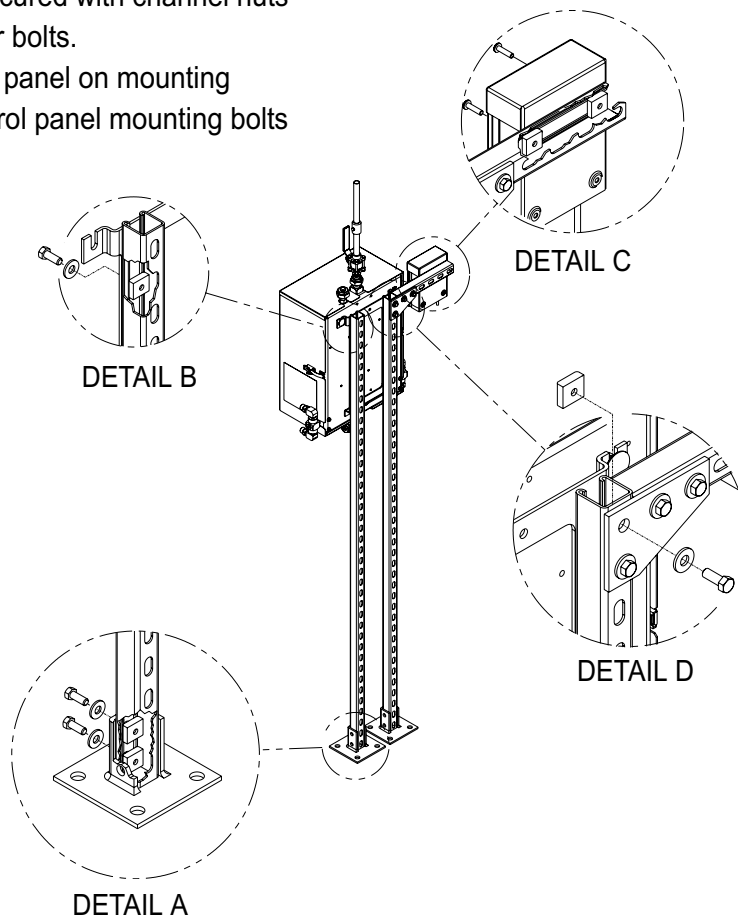

Figure 10
4. Attach post base to one end of each 80-inch channel as shown in Figure 10, Detail A. Use two each 3/8" bolts, flat washers and channel nuts per base. Tighten all four bolts.
5. Stand each channel / base side by side. Attach manifold mounting bracket to both bases as shown in Figure 10, Detail B. Use four each 3/8" bolts, flat washers and channel nuts per base. Top of bracket should be level and positioned 79 3/4" above floor. Tighten all four bolts.
8. Attach 12-inch channel to top of one vertical channel as shown in Figure 10, Detail D. 12-inch channel is used to mount power supply and may be located on either side of manifold control panel. Use flat plate, four each 3/8" bolts, flat washers and channel nuts. Unlike other hardware shown in Figure 10, 3/8 bolts will pass through elongated holes in back of channel and will be secured with channel nuts inside. Tighten all four bolts.
If floor mounting manifold control panel, mount power supply assembly to 12-inch channel as shown in Figure 10, Detail C. Use two each 1/4" bolts and channel nuts. Tighten all bolts.